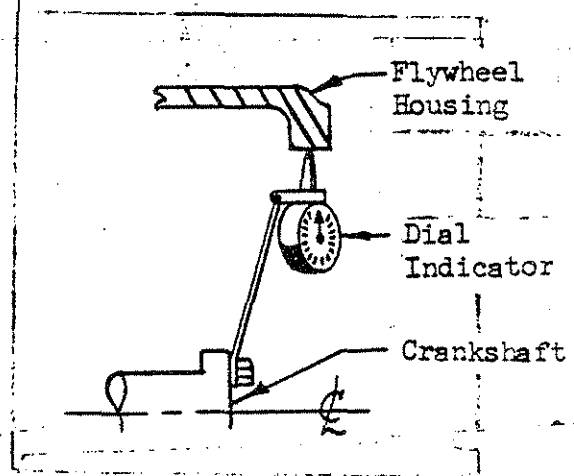

Fig. 1.
- inner surface of the pilot bore for the clutch housing. (See Fig. 1.)